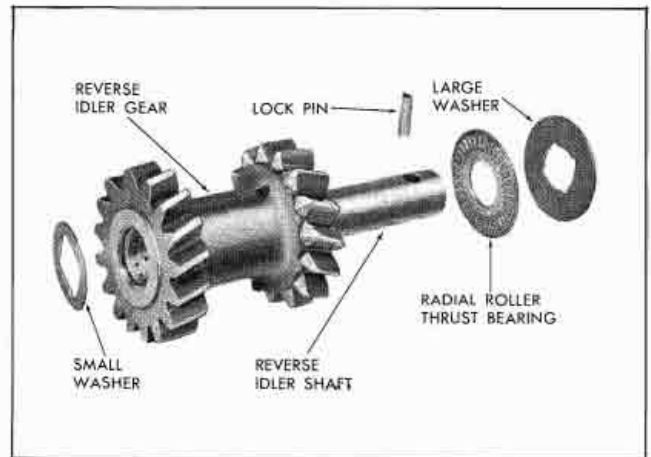

Fig. 7-47 Reverse Idler Gear, Shaft and Thrust Washers
2. Position radial roller thrust bearing against rear of gear, or end with chamfered gear teeth, and position large thrust washer against bearing. Position small thrust washer at opposite, or front end, of gear (Fig. 7-47).